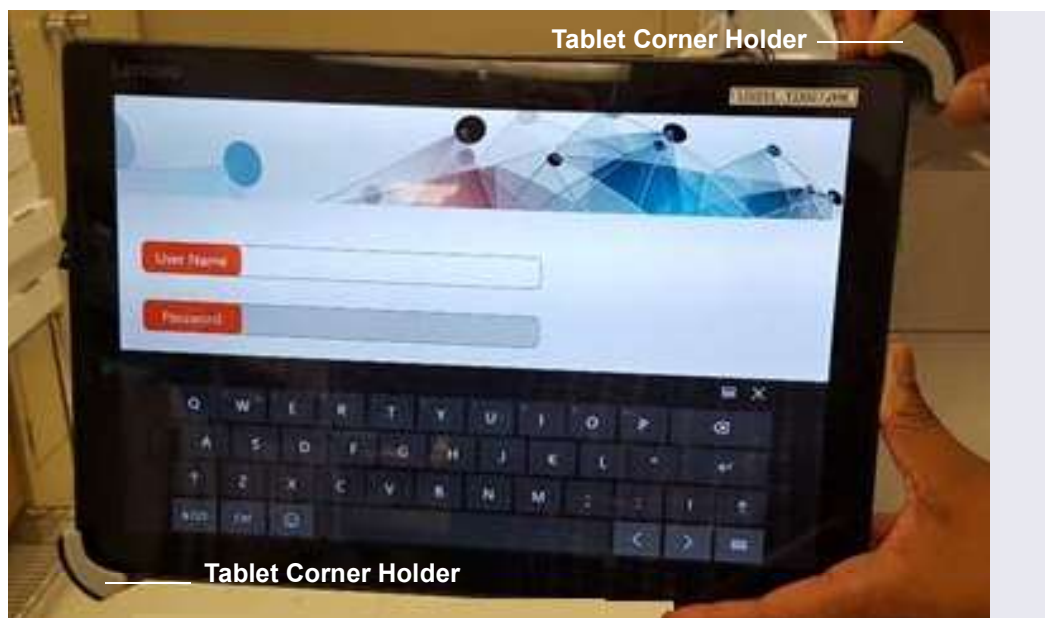

Figure 3-38. Inserting the Tablet into the Holder
4. Place the lower-left corner of the tablet into the tablet arm/holder (see Figure 3-38). Pull up the upper-right corner of the tablet and release it to hold the tablet in place.